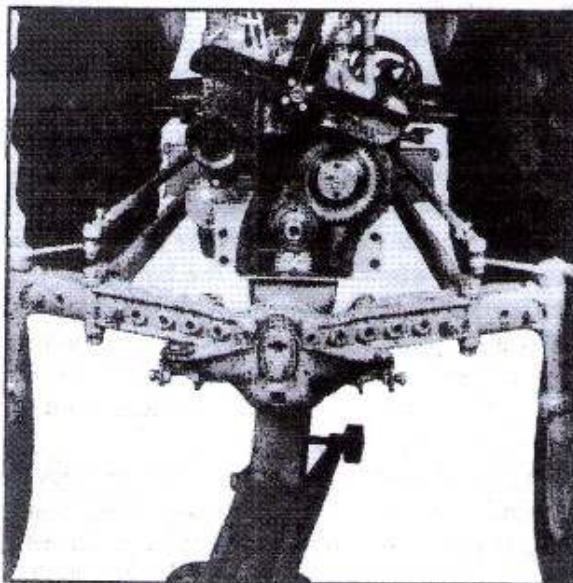

Fig. 108
5. Remove the timing gear cover and the governor cup assembly, see Fig. 108. Remove the governor weight plate from the camshaft gear. To do this on the TO-30, it is necessary to first remove the timing gear retainer nut. On the TO-20 or TE-20, simply remove the four screws which attach the weight plate to the timing gear.